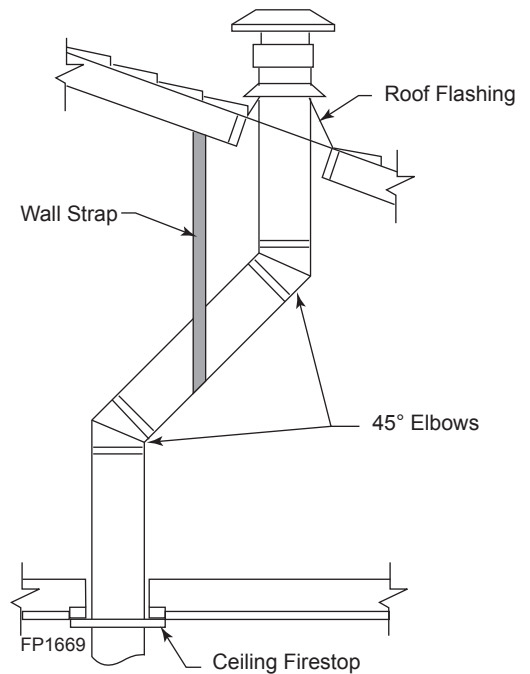

Figure 18 - Offset with Wall Strap and 45° Elbow
1. Determine the route your vertical venting will take. If ceiling joist, roof rafters or other framing will obstruct the venting system, consider an offset. *Figure 18* to avoid cutting load bearing members.
NOTE: If an offset is needed to avoid obstructions, you must support the vent pipe every three (3) feet. Use wall straps for this purpose. See *Figure 18*, page 17. Whenever possible, use 45° elbows instead of 90° elbows. The 45° elbow offers less restriction to the flow of the flue gases and intake air.
5. Place the flashing over the pipe section(s) extending through the roof. Secure the base of the flashing to the roof and framing with roofing nails. Be sure roofing material overlaps the top edge of the flashing as shown in *Figure 18*, page 17. There must be a 1" clearance from the vent pipe to combustible materials.